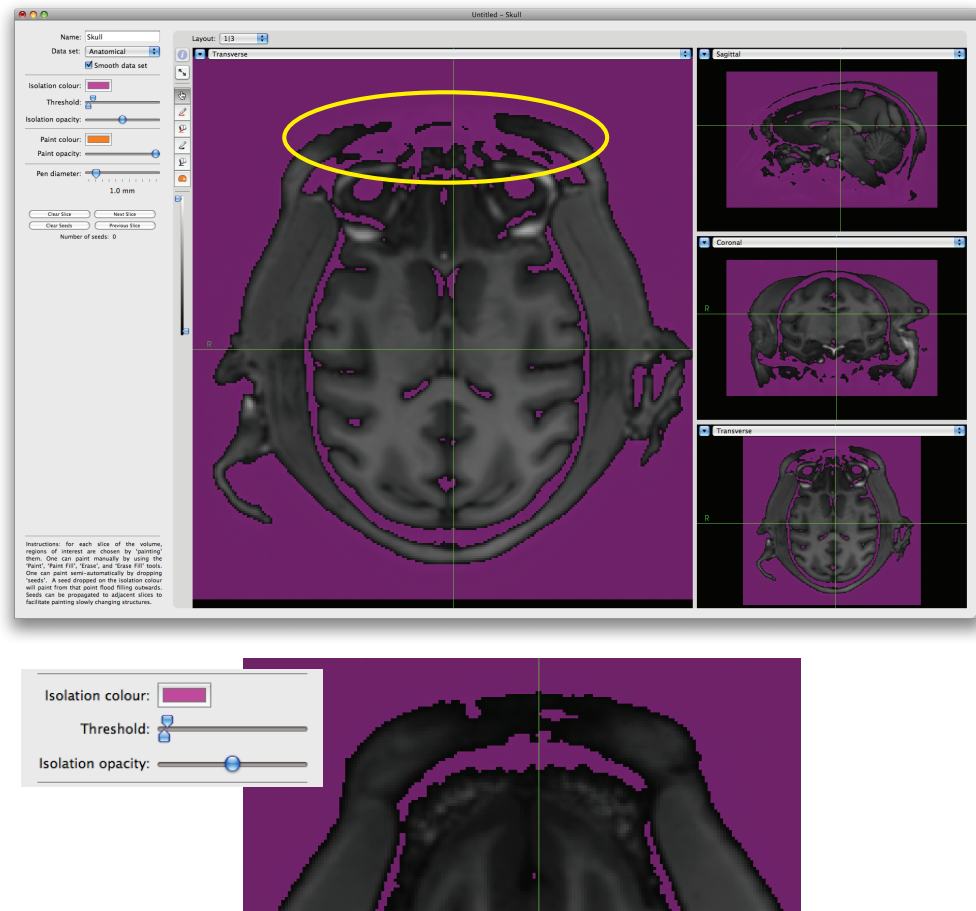

Fig. 9-11
- Continue this process until you reach the end of the brain. Take note that occasionally the threshold that was selected at the start may not be suitable for all slices. If you find that as you move from slice to slice, the threshold seems to be less than optimal, click **Clear slice** and then **Clear seeds** to reset the slice. Adjust the threshold again, and drop new seeds using the seed tool. For example, Fig. 9-11 illustrates an example where the threshold used for the middle of the brain would encompass the eyes. By adjusting the upper and lower threshold, the eyes were segmented out without a lot of manual editing.
- You will likely be unable to find a perfect threshold for the entire skull. Try to break up the skull into a few zones, particularly zones that are naturally isolated from each other. For example, in the upper part of Fig. 9-11, the threshold was picked to isolate the lateral and posterior parts of the skull. The “cost” of this is that the anterior portion of the skull is poorly delineated due to image intensity inhomogeneity. This can be addressed by using a multiple pass strategy. Set the threshold that is optimized for the lateral and posterior part of the skull.
Upper image shows the region painted using the threshold shown in the upper portion of Fig. 9-11. Lower image shows region painted by the adjusted threshold shown in the lower part of Fig. 9-11.